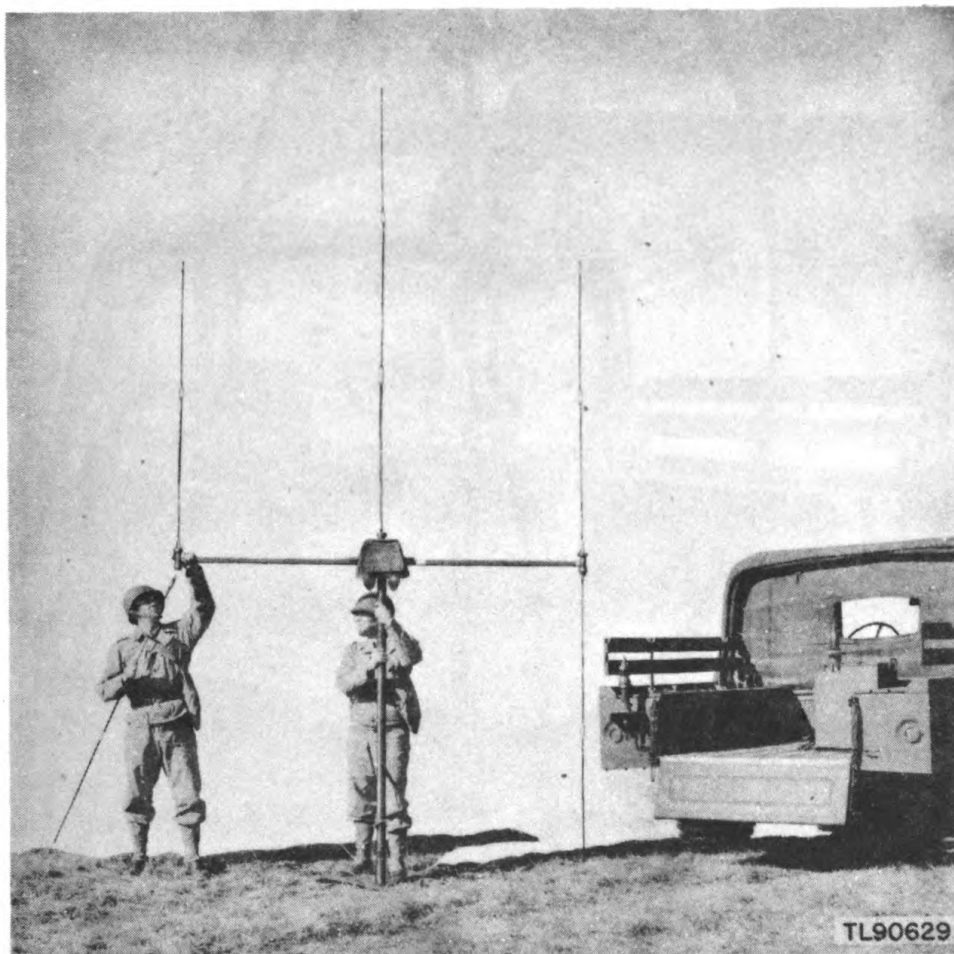

Figure 26. Placing mast sections in crossarms.
b. Assemble the upper half of the vertical dipole by joining Mast Sections MS-51, MS-50, and MS-121. Screw this antenna into the socket on top of the phase load box. When using the beacon with Radio Set SCR-608-($\&$) on frequencies of 29 to 39 megacycles remove the small Mast Sections MS-121 from the vertical dipole. This tip is used only with Radio Set-508-($\&$) on frequencies of 20-27.9 megacycles (fig. 26).
c. Assemble the antenna array by first joining four Mast Sections MS-50 with four Mast Sections MS-120. Screw the four resulting lengths into the sockets in the outer ends of each crossarm (fig. 26).